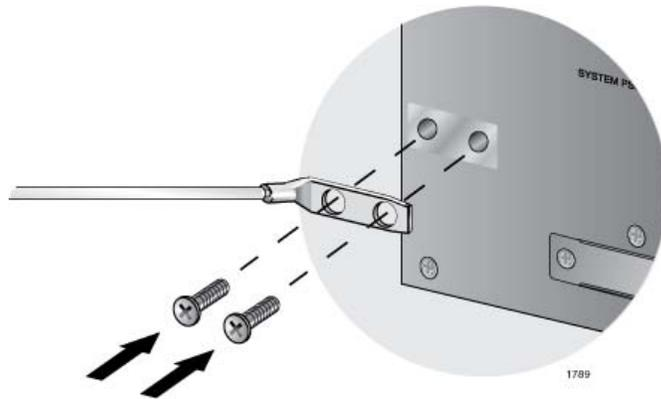

Figure 44. Installing the Grounding Lug and Wire
4. Install the grounding lug on the rear panel of the chassis, as shown in Figure 44.